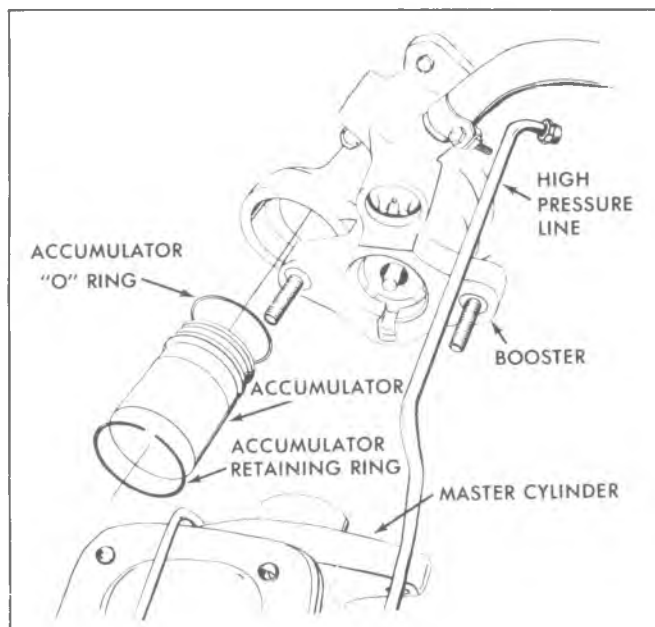

Fig. 5-7E--Accumulator Installation
16. Using clean power steering fluid, lubricate accumulator seal. Install seal and accumulator in housing and then place the retaining ring over the accumulator (fig. 5-7E). Place Tool J-26889 over accumulator.